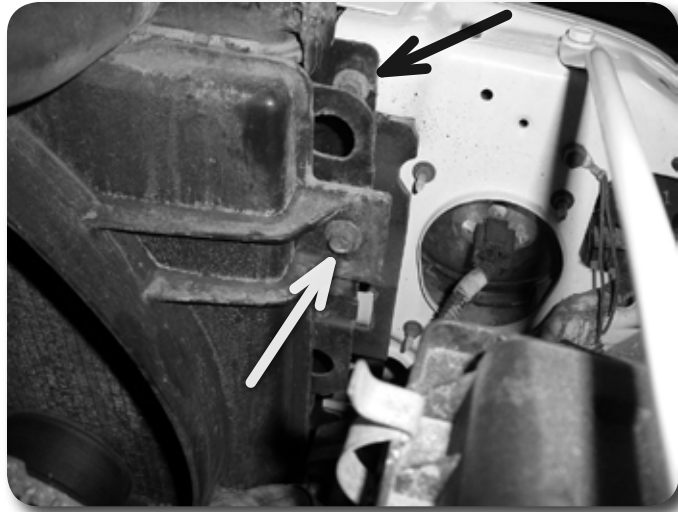

Figure 3
5. Remove the four bolts that mount the fan shroud to the radiator. **Figure 3** Pull the shroud back off of the radiator and let it rest on the fan. Remove the 6 bolts mounting the radiator to the core support. **Figure 3** Allow the radiator to rest against the fan.